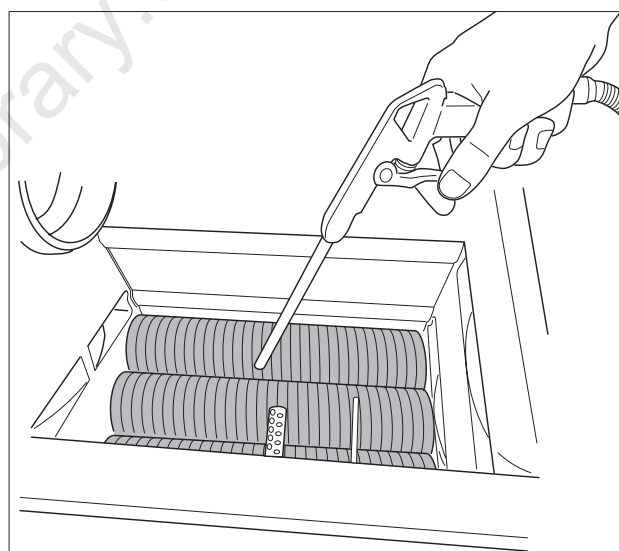

fig. 132 Cleaning the heat exchanger
- Clean the heat exchanger with compressed air or a soft brush (fig. 132).